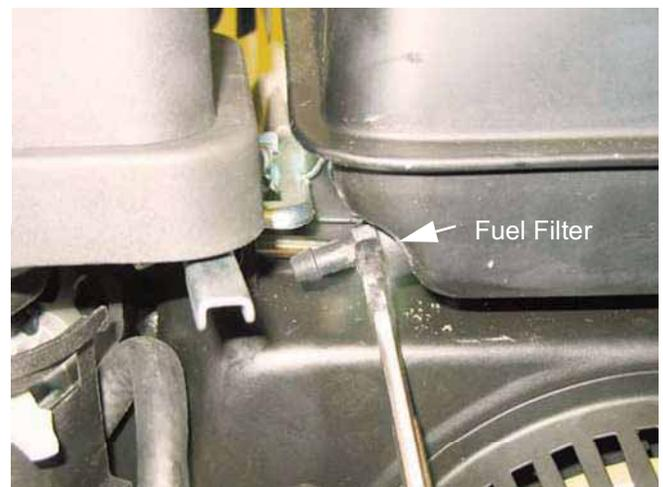

Figure 1.10
4. Remove the fuel tank nipple using a 12 mm wrench. See Figure 1.10.